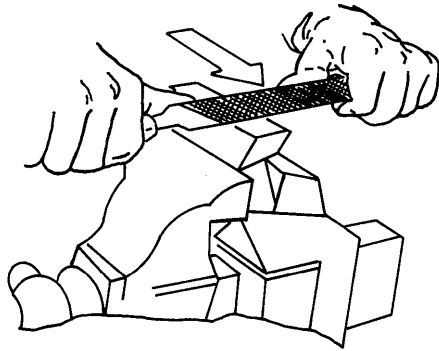

Figure 4-78. Drawfiling
(3) Drawfiling. Drawfiling produces a finer surface finish and usually a flatter surface than crossfiling. See figure 4-78 and proceed as follows:
(b) Hold the file as shown in figure 4-78. The cutting stroke is away from the body when the file handle is held in the right hand. If the handle is held in the left hand, the cutting stroke will be toward the body.